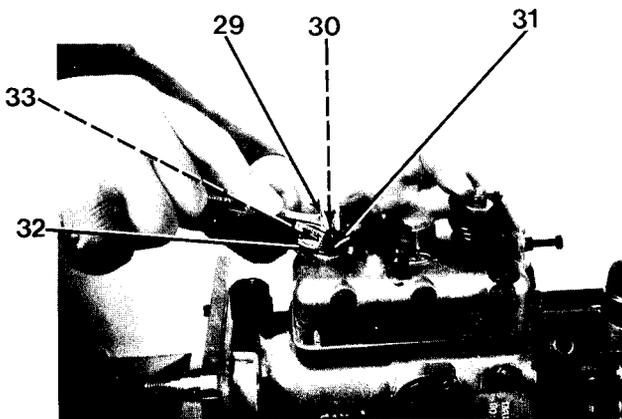

Figure 7-20
9. Remove lock nut (29), washer (30), lever (31), spring (32) and guide (33, Figure 7-20).